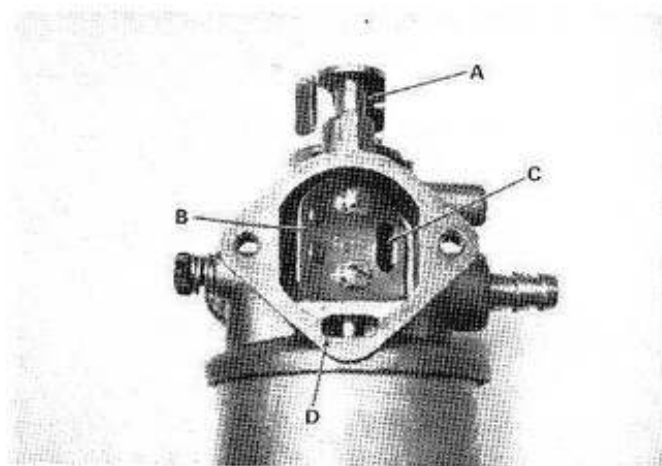

Figure 91. Carburetor Choke Plate Inspection.
- i. Inspect the choke end of the carburetor throat. (See Figure 91.)
- j. The self-regulating choke valve (C) must seal tightly against the inside surface of the choke plate to function properly. If improper sealing is noted, the choke plate must be replaced.